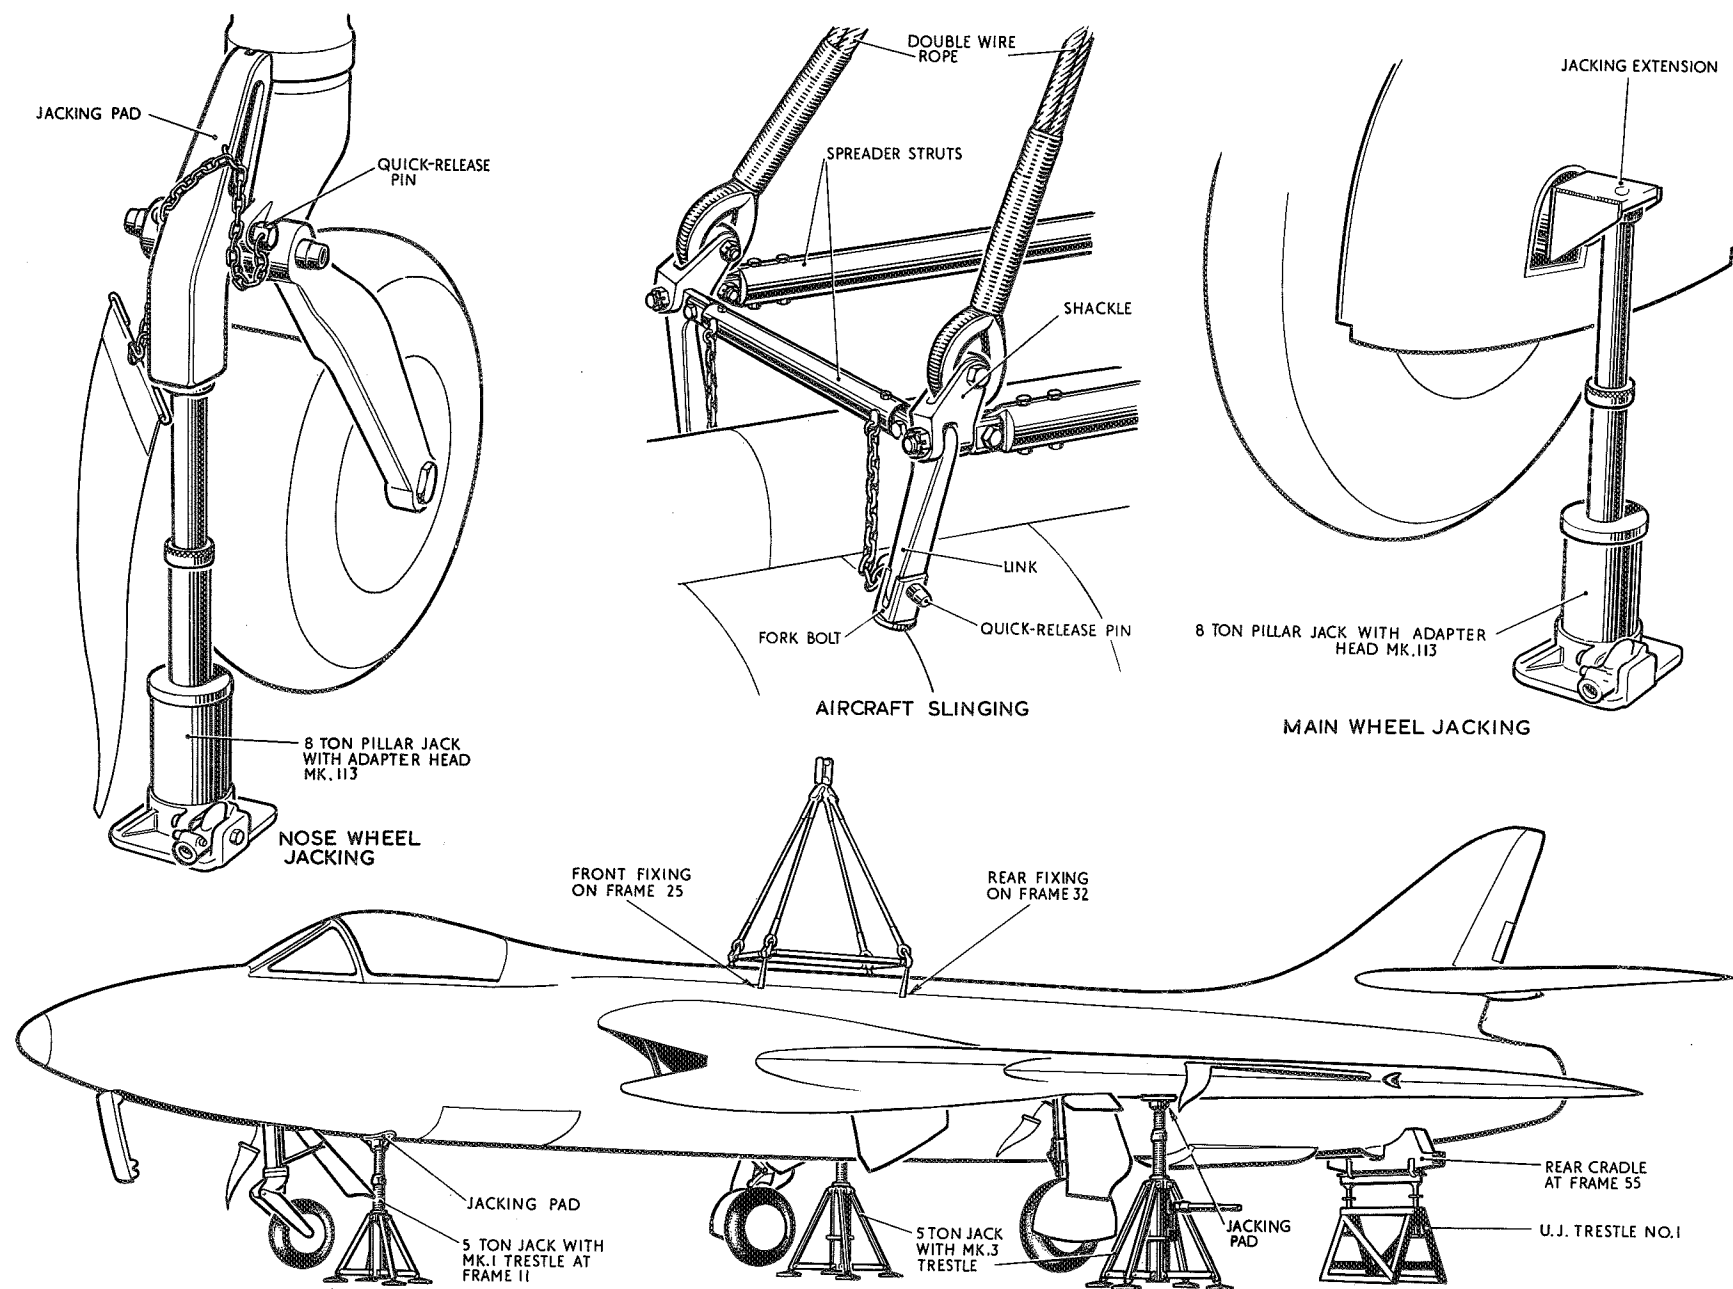

Fig.2 Jacking, trestling and slinging
- (1) Jack up the aircraft (fig. 2) and retract the alighting gear.
- (2) Position the component trestles to fully support the aircraft.
- (3) Remove the outer wings (Sect. 3, Chap. 2), after removing any external stores which may be fitted.
9. The methods to be employed and the jacks, trestles and support beams, etc., to be used when jacking, trestling and slinging the complete aircraft for servicing are illustrated in fig. 2. It should be noted that the fuselage jacking pad has a concave bearing surface and must not be interchanged with the wing jacking pad which has a flat bearing surface.
10. When checking the alignment of the structure by means of the diagonal dimensions given in fig. 5, there is no need to trestle the aircraft. When the incidence and dihedral are being checked, the aircraft must be trestled in the rigging position, with the equipment provided (fig. 2). The procedure for rigging is as follows:—